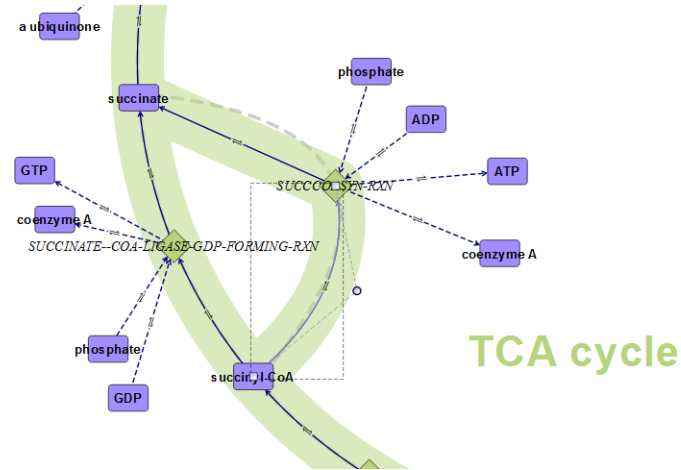

Figure 96 Adjust a curve edge to follow the background curve pattern
- d Drag the edge control point, now a black circle, to match the edge to the arc path (Figure 96).